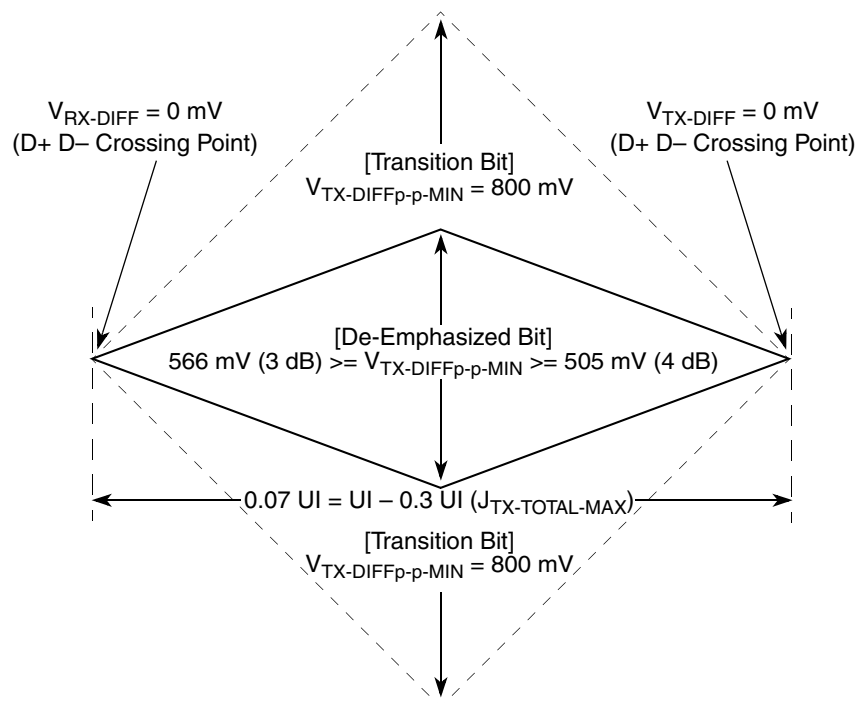
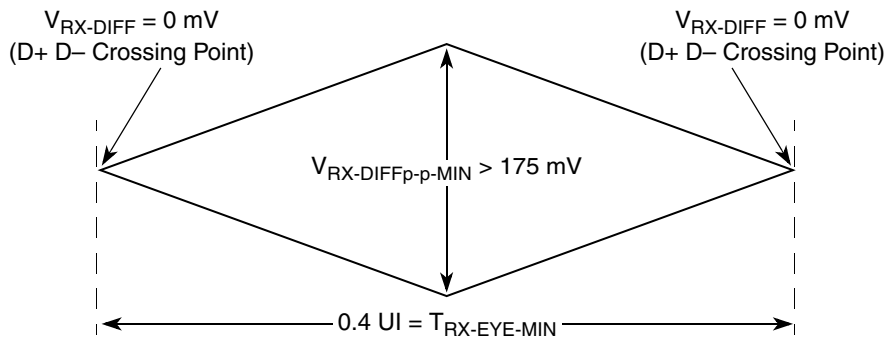
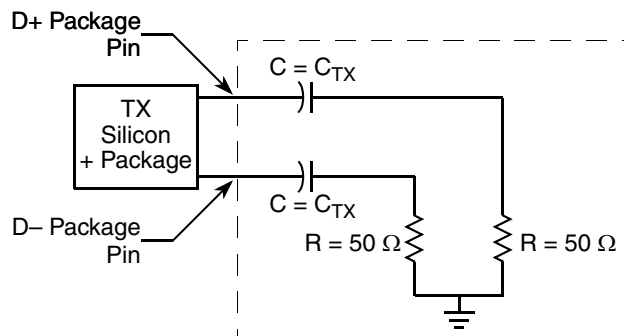

Figure 56. Minimum Transmitter Timing and Voltage Output Compliance Specifications
Figure 57. Minimum Receiver Eye Timing and Voltage Compliance Specification
Figure 58. Compliance Test/Measurement Load
2. Specified at the measurement point into a timing and voltage compliance test load as shown in Figure 58 and measured over any 250 consecutive TX UIs. (Also refer to the transmitter compliance eye diagram shown in Figure 56.)
4. The transmitter input impedance shall result in a differential return loss greater than or equal to 12 dB and a common mode return loss greater than or equal to 6 dB over a frequency range of 50 MHz to 1.25 GHz. This input impedance requirement applies to all valid input levels. The reference impedance for return loss measurements is 50 Ω to ground for both the D+ and D- line (that is, as measured by a vector network analyzer with 50- Ω probes—see Figure 58.) Note that the series capacitors C_{TX} is optional for the return loss measurement.
5. Measured between 20%–80% at transmitter package pins into a test load as shown in Figure 58 for both $V_{\text{TX-D+}}$ and $V_{\text{TX-D-}}$.
The TX eye diagram in Figure 56 is specified using the passive compliance/test measurement load (see Figure 58) in place of any real PCI Express interconnect +RX component.
2. Specified at the measurement point and measured over any 250 consecutive UIs. The test load in Figure 58 should be used as the RX device when taking measurements (also refer to the receiver compliance eye diagram shown in Figure 57). If the clocks to the RX and TX are not derived from the same reference clock, the TX UI recovered from 3500 consecutive UI must be used as a reference for the eye diagram.
4. The receiver input impedance shall result in a differential return loss greater than or equal to 15 dB with the D+ line biased to 300 mV and the D– line biased to –300 mV and a common mode return loss greater than or equal to 6 dB (no bias required) over a frequency range of 50 MHz to 1.25 GHz. This input impedance requirement applies to all valid input levels. The reference impedance for return loss measurements for is 50 Ω to ground for both the D+ and D– line (that is, as measured by a vector network analyzer with 50- Ω probes, see Figure 58). Note that the series capacitors C_{TX} is optional for the return loss measurement.
The RX eye diagram in Figure 57 is specified using the passive compliance/test measurement load (see Figure 58) in place of any real PCI Express RX component.
In general, the minimum receiver eye diagram measured with the compliance/test measurement load (see Figure 58) will be larger than the minimum receiver eye diagram measured over a range of systems at the input receiver of any real PCI Express component. The degraded eye diagram at the input receiver is due to traces internal to the package as well as silicon parasitic characteristics which cause the real PCI Express component to vary in impedance from the compliance/test measurement load. The input receiver eye diagram is implementation specific and is not specified. RX component designer should provide additional margin to adequately compensate for the degraded minimum receiver eye diagram (shown in Figure 57) expected at the input receiver based on some adequate combination of system simulations and the return loss measured looking into the RX package and silicon. The RX eye diagram must be aligned in time using the jitter median to locate the center of the eye diagram.
The reference impedance for return loss measurements is 50 Ω to ground for both the D+ and D– line (that is, as measured by a vector network analyzer with 50-Ω probes, see Figure 57). Note that the series capacitors, CTX, are optional for the return loss measurement.
The AC timing and voltage parameters must be verified at the measurement point, as specified within 0.2 inches of the package pins, into a test/measurement load shown in Figure 58.